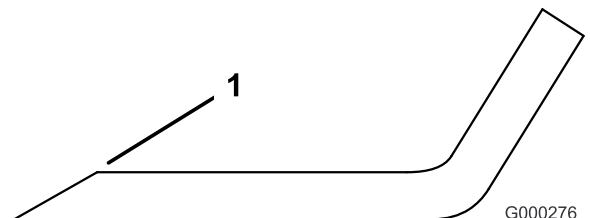

Figure 84
1. Use a file to sharpen the cutting edge at both ends of the blade (Figure 84).